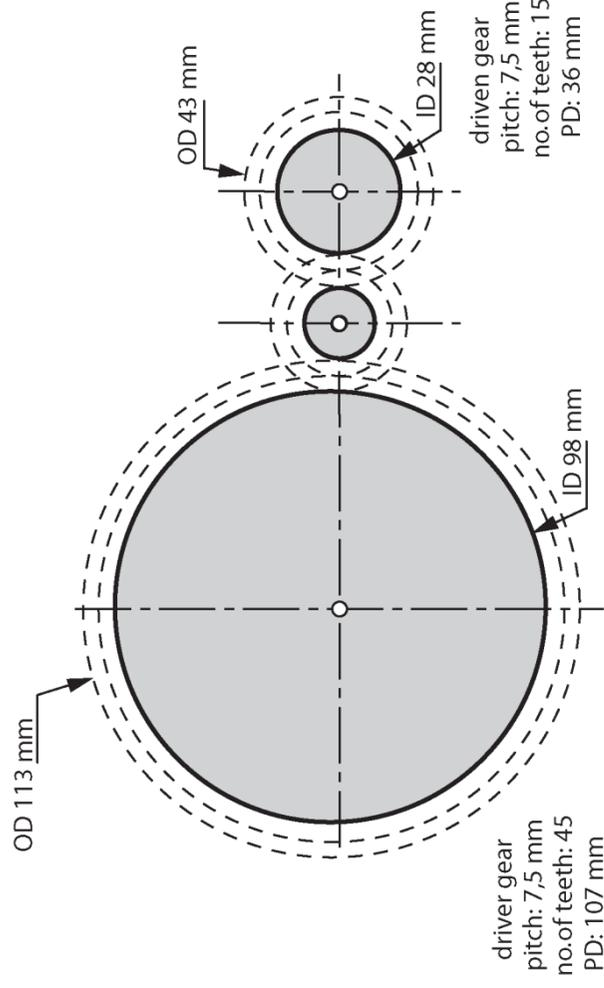

Figure 12: (This drawing is not drawn to scale.)
1. Add an idler to this gear system as shown in Figure 12. Now draw this new system on grid paper, to a scale of 1:1.
Learners' drawings should look like Figure 12.